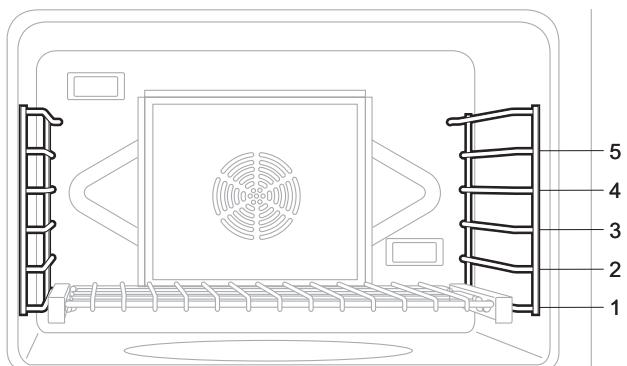

Figure 29: Large Gas Main Oven with Rack Positions
- Rack level positions in the oven are numbered like an elevator. Number one level is the lowest (Figure 29).